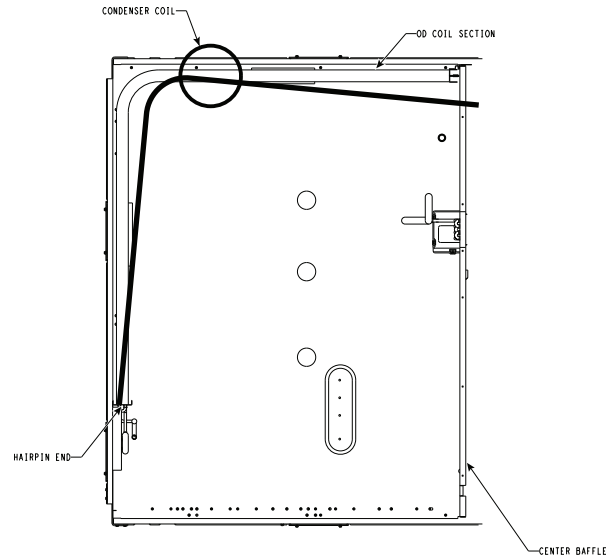

Fig. 19 — Separating Coil Sections (Top View)
8. Insert a spacer (field-supplied) between the tube sheets to hold the coils apart. See Fig. 19.